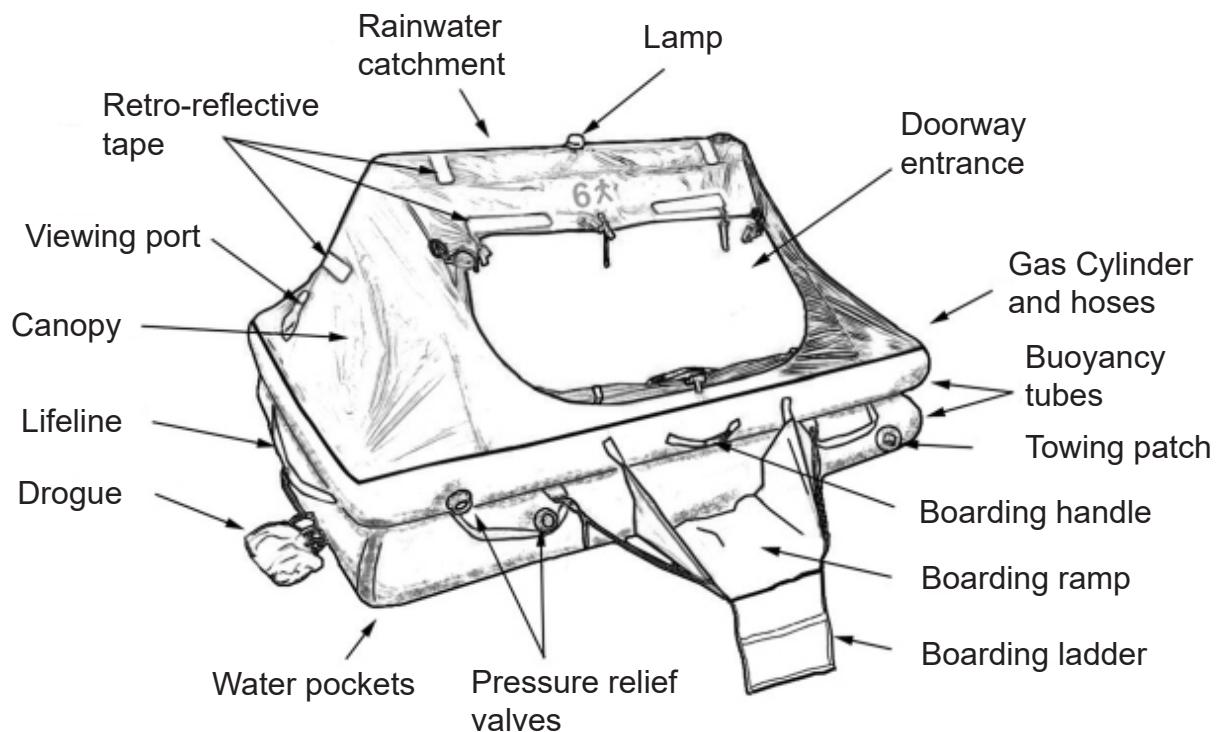

FIGURE 101A
- 1.1 The Marine MK IV range of Throwover board (TO) liferafts are high capacity liferafts rated for 4, 6, 8, 10, 12, 16, 20 or 25 persons. Refer to FIGURE 101A and B. The range is complemented by Davit-launch (DL) versions sized 12, 16, 20 or 25 persons. Refer to FIGURE 102.
Refer to FIGURE 101A and B or FIGURE 102: